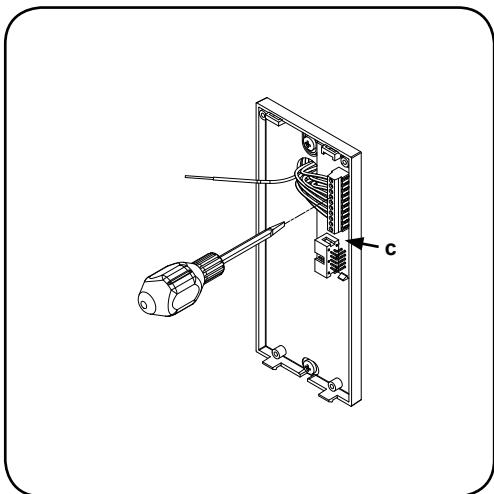

Fig.4
• Using a flat blade screwdriver connect the wires to the pcb connection board "c" as shown in Figure 4, according to the installation diagram provided.